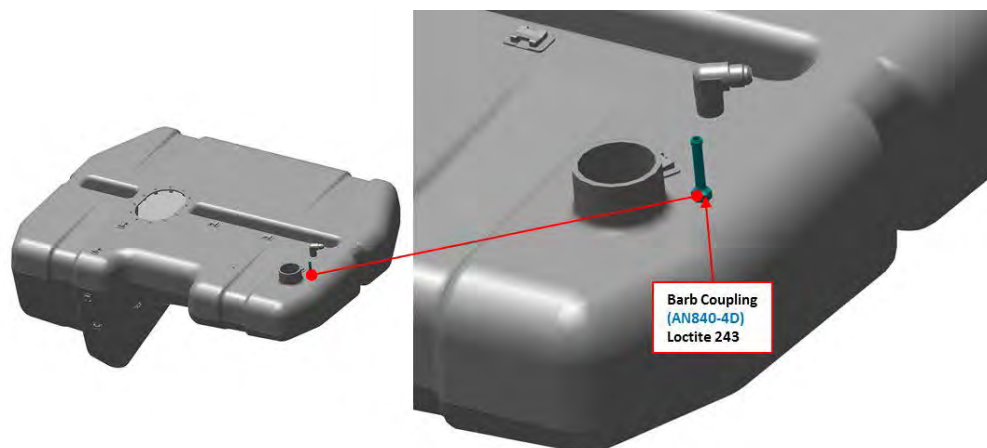

FIGURE 11-17
6. Apply THREADLOCKER as a 360° bead to the leading threads of BARB-PIPE THREAD COUPLING and install into fuel tank as shown in Figure 11-17. Wrench tighten 2-3 turns past finger light.